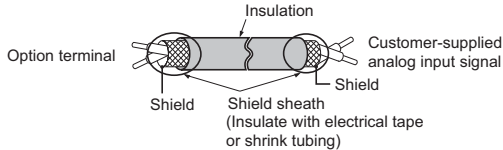
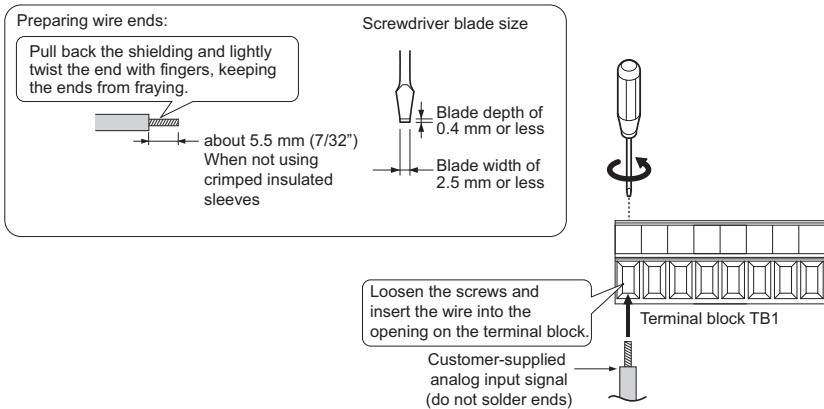

Figure 7 Preparing Ends of Shielded Cable
Figure 8 Preparing and Connecting Cable Wiring
5. Prepare and connect the wire ends as shown in **Figure 7** and **Figure 8**. Refer to **Wire Gauges, Tightening Torques, and Crimp Terminals on page 20** to confirm that the proper tightening torque is applied to each terminal. Take particular precaution to ensure that each wire is properly connected and wire insulation is not accidentally pinched into electrical terminals.